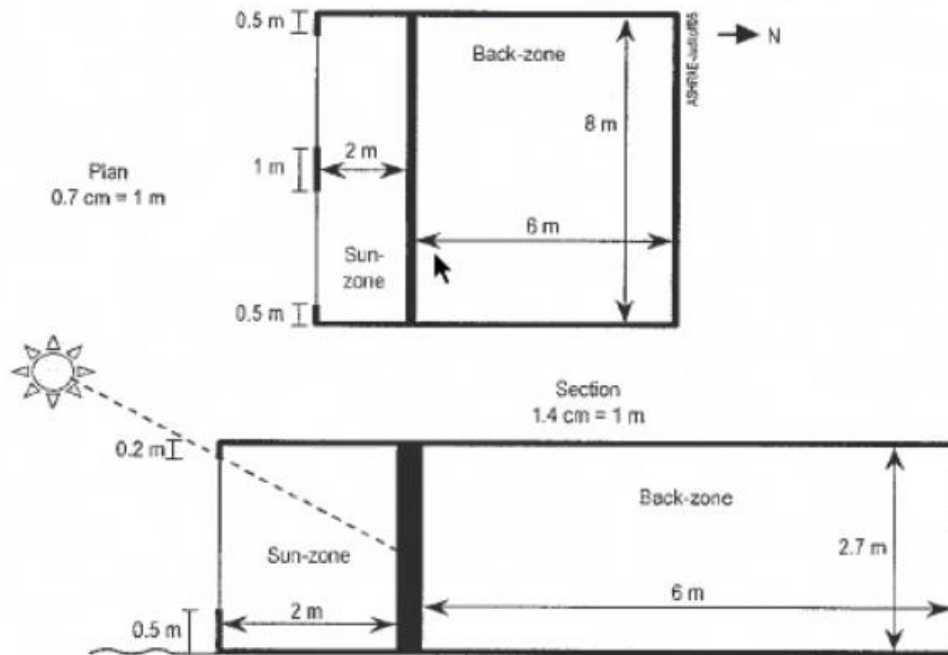

Figure 6 Sunspace plan and section (Case 960).
5.2.2.2.7 Case 960: Sunspace. The sunspace consists of two zones (back zone and sun zone) separated by a common wall (Figure 6). The back zone is of lightweight construction, and the sun zone is of heavyweight construction.